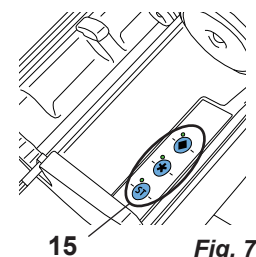

Fig. 7
⇒ Activate the mixing program by pressing the corresponding program key (15, Fig. 7).